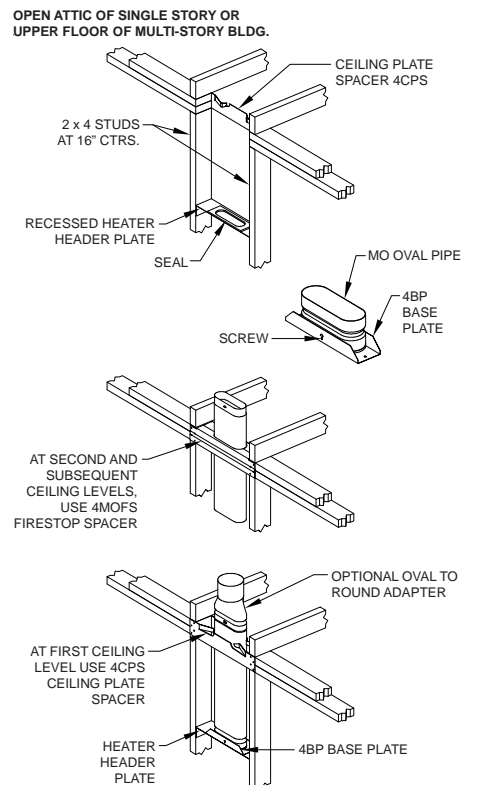

FIGURE 7
7. If the installation is with a recessed heater, the 4MOK installation kit is required. At the top of the recessed heater mounted in the stud wall, the gasket is applied under the base plate from the 4MOK. The base plate is screwed to the heater outlet. The base plate has provisions to allow 4BW vent to snap in place. At the ceiling level, the ceiling plate spacers are mounted to maintain proper clearances to combustibles. At this point the installation is the same as explained earlier (See **FIGURE 7**).